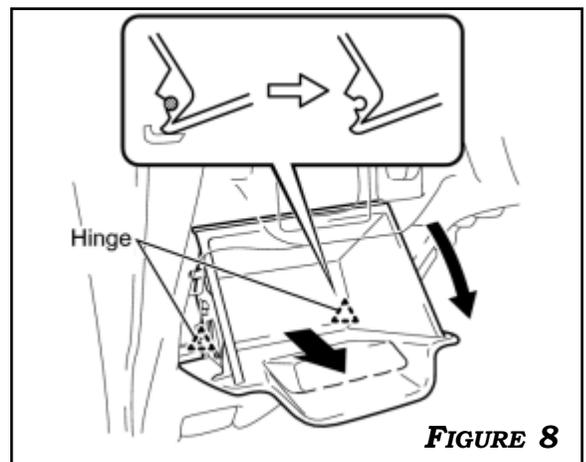

FIGURE 8
8. DISENGAGE THE 2 CLIPS AND THE 2 CLAWS AND REMOVE THE FRONT PILLAR GARNISH. **FIGURE 8**